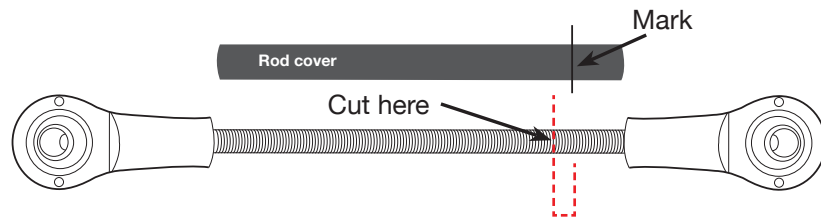

fig. 13
6. Remove the rod linkage from the sensor arm and measure 1/2" back from the mark. This will show where to cut the rod (fig. 13).